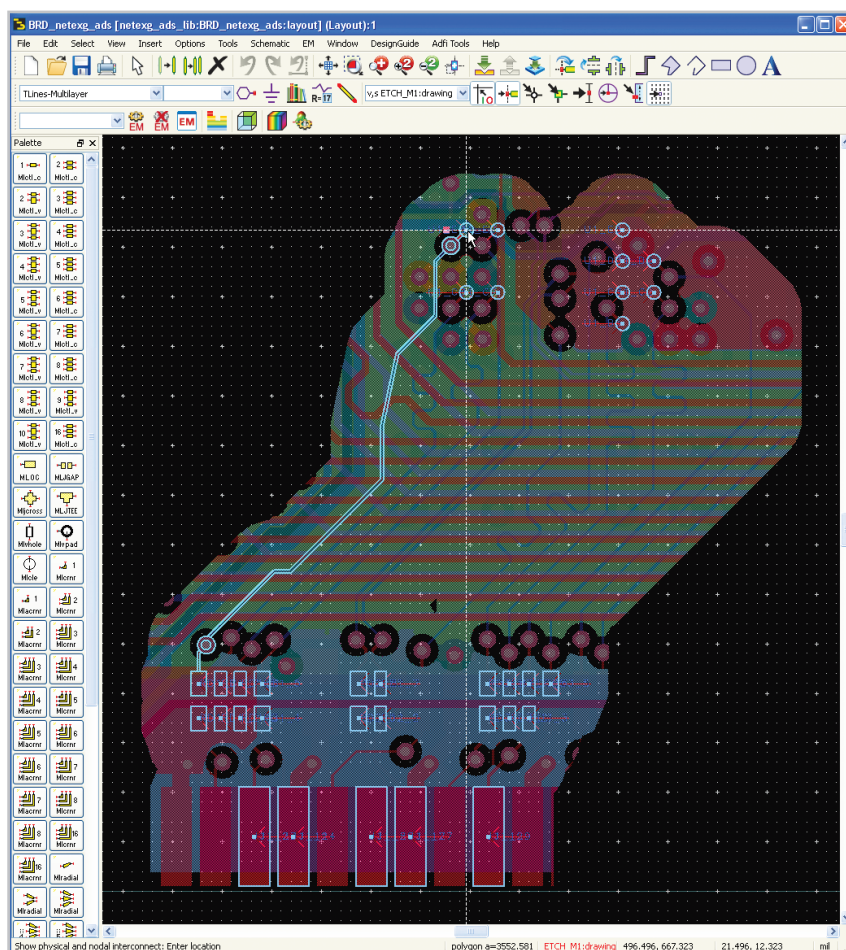

Figure 2.
The High Capacity Layout Pre-processor Element is an ODB++ file format import and pre-processing tool that enables you to select the environment immediately around critical nets in preparation for electromagnetic (EM) modeling. This type of pre-processing is useful in high-speed digital design where the printed circuit board (PCB) is very complex and whose total geometry exceeds the capacity of an EM-based field solver. The solution is to focus in on a handful of critical nets, for example, a differential pair connecting two Serializer/Deserializer (SERDES) integrated circuits (ICs) that are a victim of crosstalk from one or more aggressor traces. An example of such a trace is shown in figure 2. Note that the board has been “cookie cut”, meaning a convex hull with a user-defined margin has been defined, leaving a portion of the board whose complexity is within the capacity constraints of full-accuracy, full-wave EM field solvers such as Momentum and FEM Element.